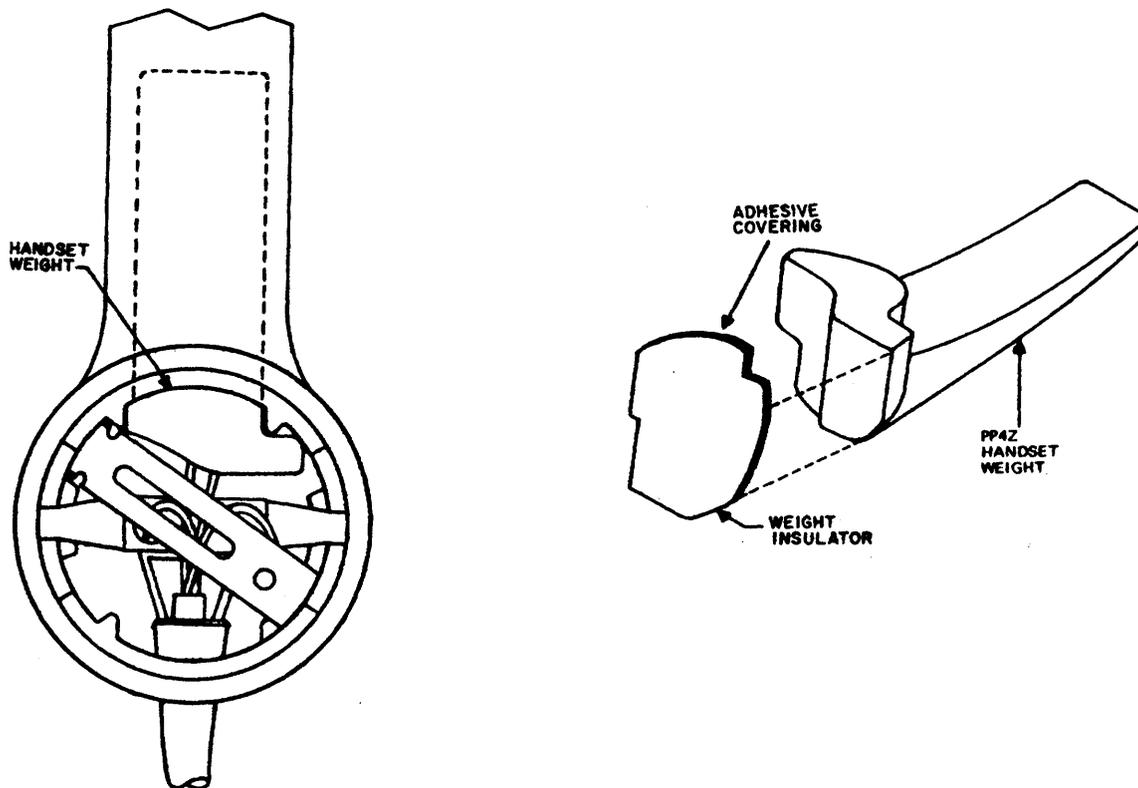

Figure 9. Installing Handset Weight.
5.05 Refer to Figure 9 and install the handset weight as follows: